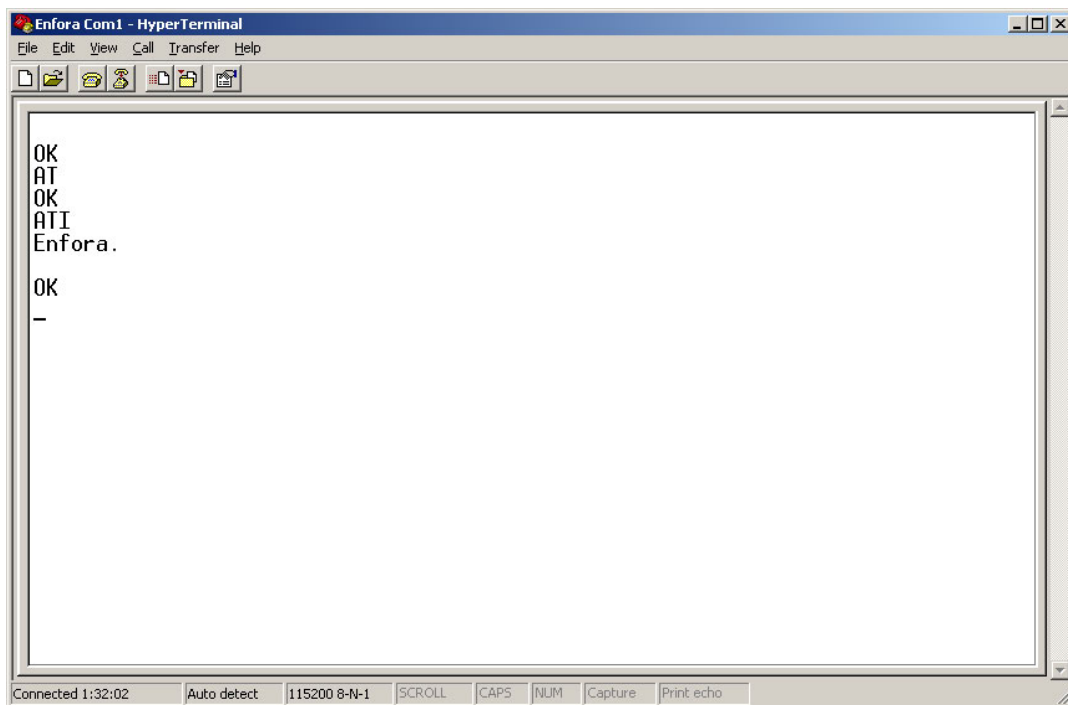

Figure: 19 - ATI Response
- d. Type ATI<CR>. The device should respond with Enfora, Inc. If you get any different response, you are not connected to the Enfora device. See Figure: 19 - "ATI Response"